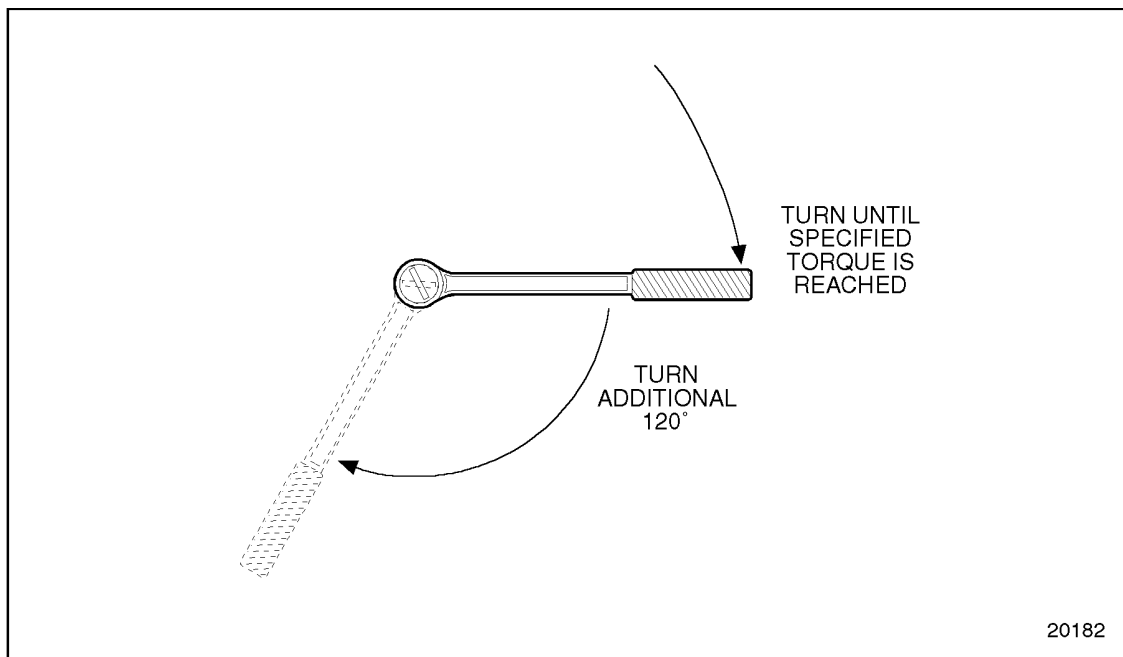

Figure 1-214 Torque Turn Limits
8. Turn the bolts an additional 120 degrees, or 2 flats on a six-point bolt. See Figure 1-214.